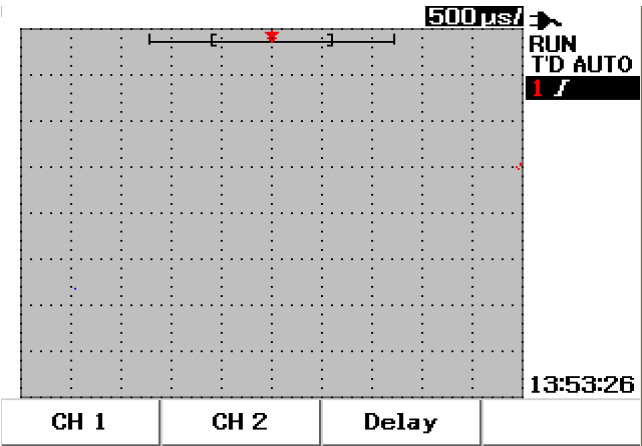

Figure 3-1 Scope menu display with displayed of both channels display.
- 1 Press Scope button on front panel to access Scope menu. You will see the following scope menu display in Figure 3-1., which shows both channels disabled.